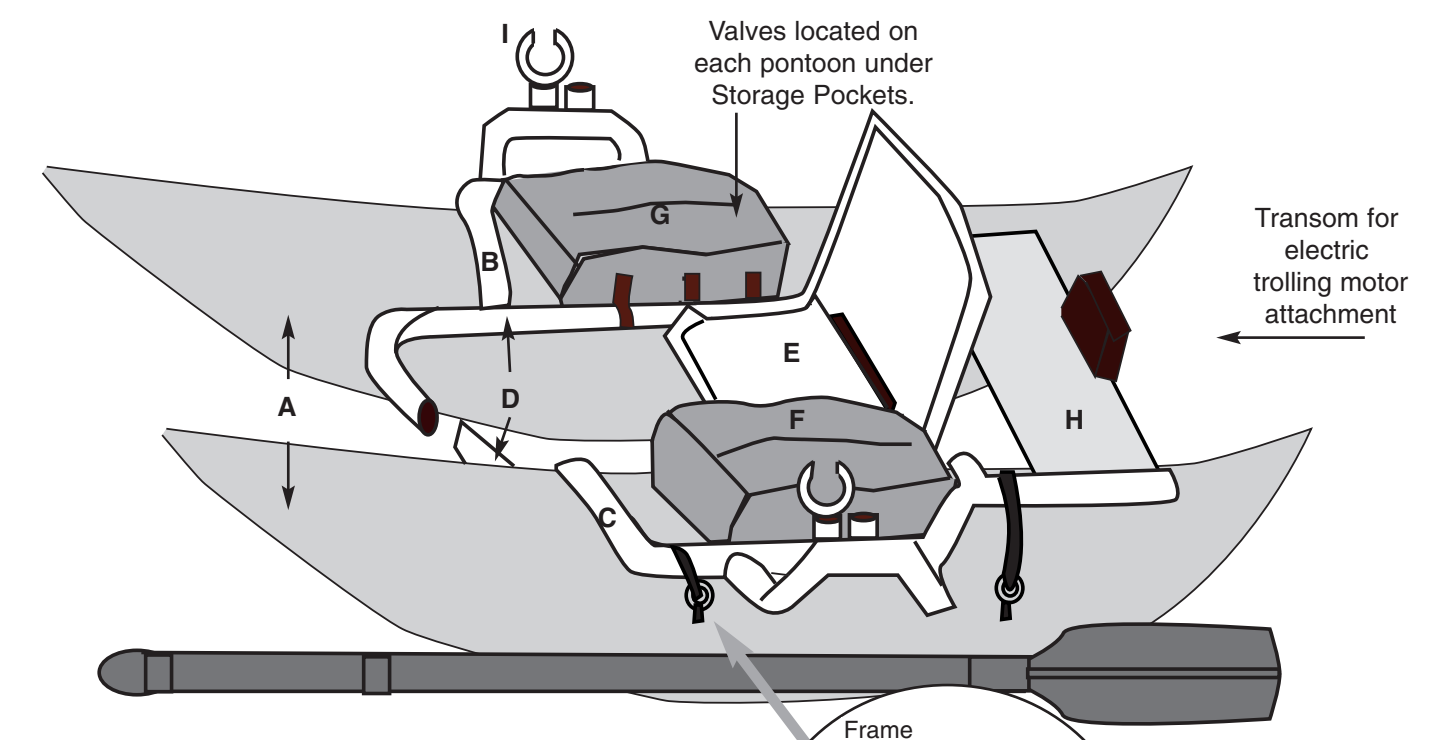

Figure 5
1. Inflate each pontoon. The valve is located at the top and center of each Pontoon (see figure 5). Inflate until firm (do not over inflate).
(see figure 5)